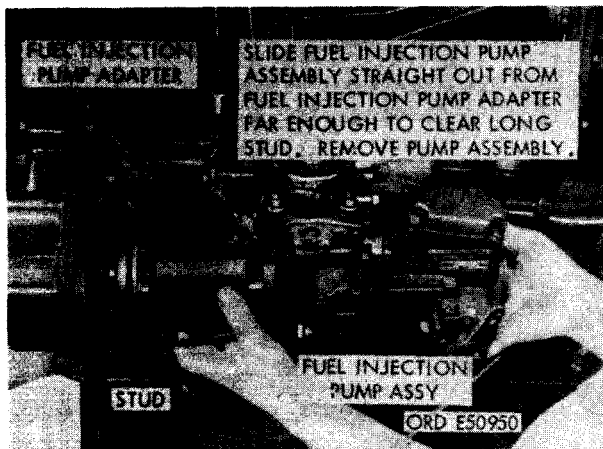

FIGURE 71. REMOVING OR INSTALLING FUEL INJECTION PUMP ASSEMBLY.
- (18) Refer to figure 71 and remove the fuel injection pump assembly.